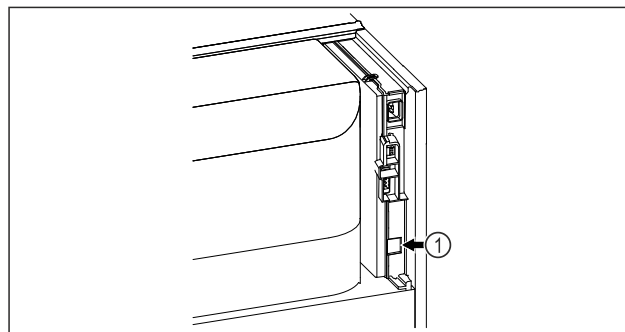

Fig. 132
- SmartModule Fig. 132 (1) is in use.